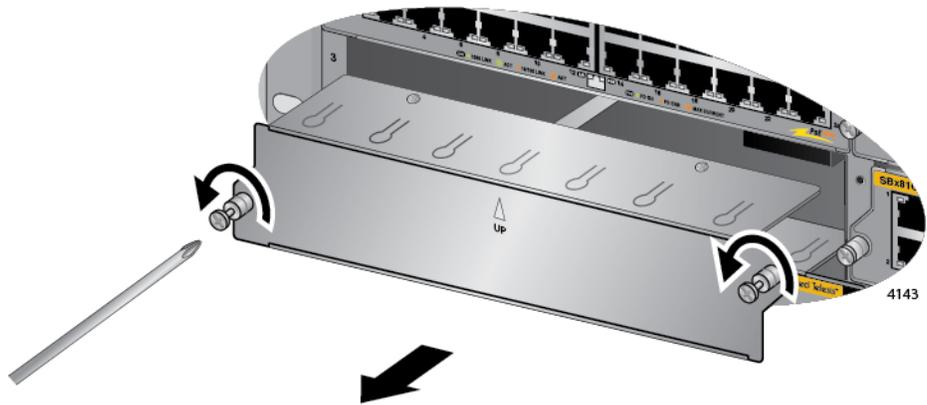

Figure 85. Removing a Blank Slot Cover
2. If the selected slot for the line card is covered with a blank slot cover, use a #2 Phillips-head screwdriver to loosen the two captive screws on the cover and remove it from the chassis. Refer to Figure 85 on page 147.